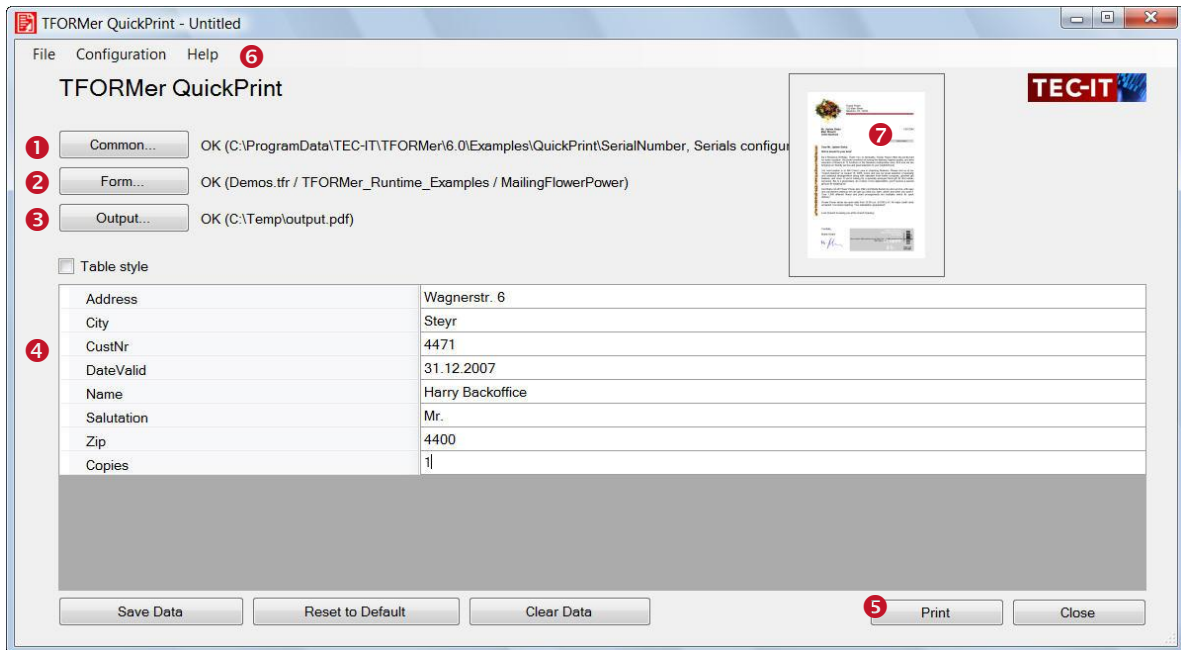

Figure 1: User Interface
To start printing (or the output to a file) press the button *Print* (see Figure 1, ⑤). The output is created according to the specified output settings (see Chapter 5.3).